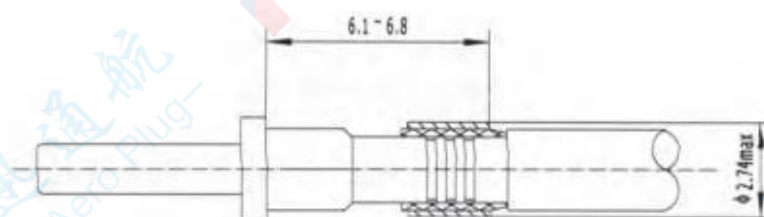

Figure 7
Place the crimp sleeve forward onto the cable shield layer as shown in Figure 7, with the positional dimension ranging from 6.1 to 6.8 mm. Trim off the excess shield layer extending beyond the shield crimp sleeve. Perform crimping on the crimp sleeve using tool M22520/4-01 and locator M22520/4-02: make the first crimp, rotate the contact by 45 degrees, and then perform the second crimp. After the second crimp, the diameter of the shield crimp sleeve must not exceed 2.74 mm.
a.. Install the internal assembly (from Figure 7) into the outer socket contact assembly until the inner contact pin is fully seated.